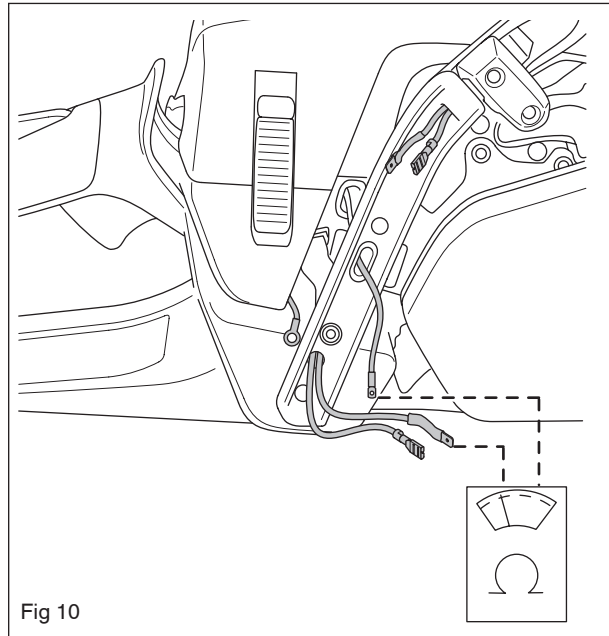

Fig 10
1. Connect the multimeter as outlined in Figure 10. The measurement should be carried out at normal room temperature (20°C/68°F) and should indicate in that case 0 A.